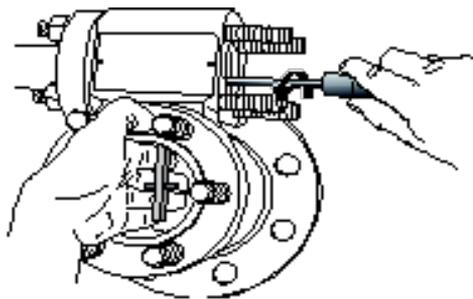

Figure 23
### 9.3 Removal of 12400 Case and Torque Tube Sub-Assembly (See Figures 23 & 24)
To remove the displacer, the torque arm must be removed. When the two arm screws (133) are loosened, hold the torque arm so as not to damage the torque tube (Figure 23).
- Remove the upper flange (146) and blind flange (144).
- Lower the torque arm (135) and unhook the displacer (130). A hook-shaped 3 mm steel wire facilitates unhooking and holding of the displacer. The wire may be inserted through the clevis hole.
- Remove the two torque arm screws (133) and remove the torque arm (135) from the chamber.
- Remove the displacer from its chamber (131) or tank.
- Be sure that requirements for instruments installed in explosive areas are strictly followed. Remove screw (106) from connection compartment and unscrew cover (104). Disconnect supply electrical wires and other equipment from terminals (90).
- Remove nuts (142) holding the torque tube subassembly and slide the subassembly out of the mechanism chamber.
For installation, reverse the procedure outlined for removing a DLT case and torque tube sub-assembly (section 9.3). It is recommended that new gaskets (143 -149) be used when installation is performed (see figure 23).